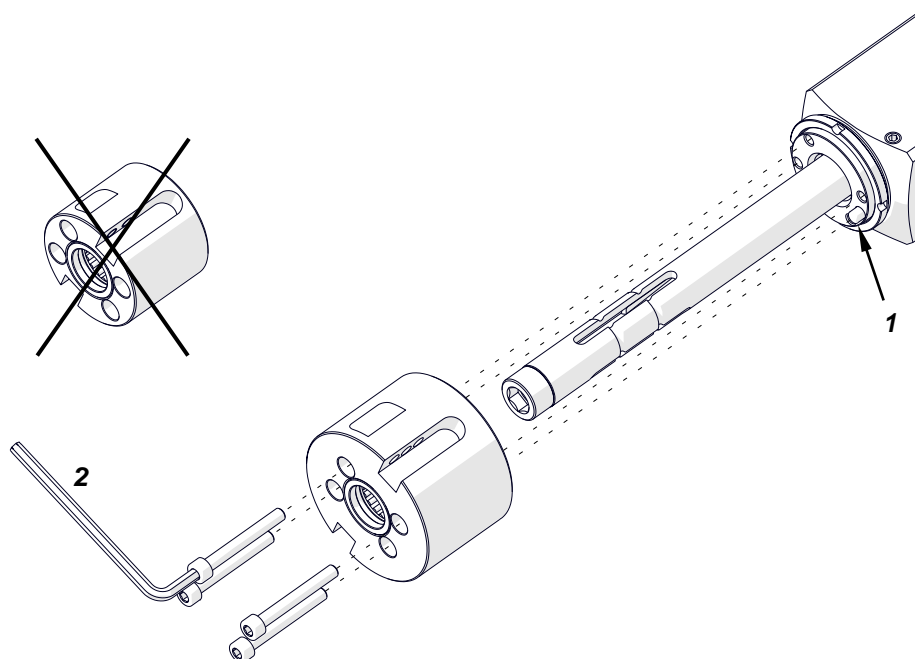

Fig. 11. Installing the large tool bit holder
Use the 4 mm hex wrench to remove the standard tool bit holder. Next, put the large holder onto the pin (1, Fig. 11) and use the 4 mm hex wrench to attach the holder with the screws (2).